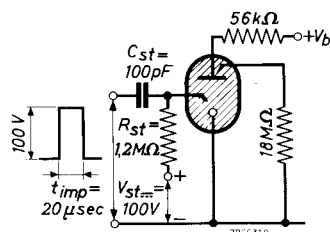

Fig.13a. Recommended circuit with pulse ignition.
²) Circuit Fig.13a.
5. If the Z70U is ignited by pulses of short duration the total starter voltage (bias plus pulse) should exceed 175 V. A recommended value with a 100 pF starter capacitor is 200 V (see Fig.13a).